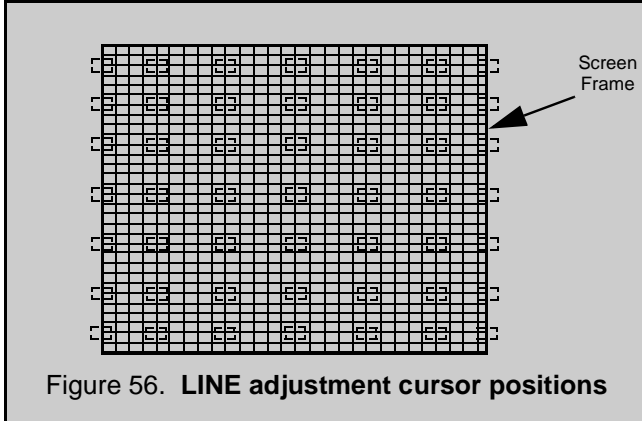

Figure 56. LINE adjustment cursor positions
25. Begin adjustment from the center to the edge of the screen (see figure 56)